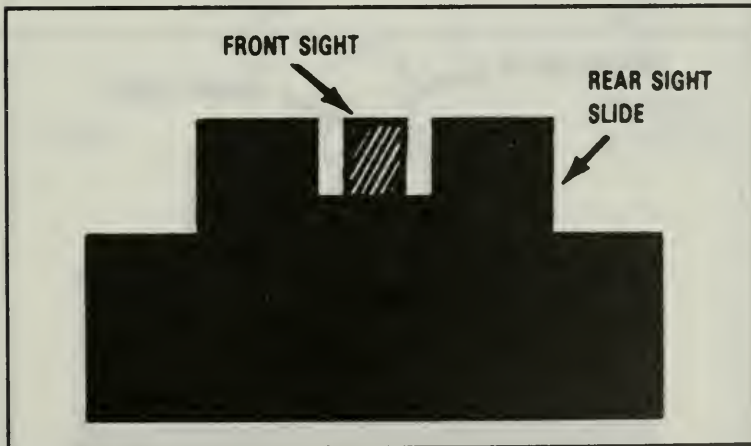

Figure 152. Sight alignment.
- a. Sight alignment. Center the front sight blade in the aperture of the rear sight with the top of the front sight blade even with the top of the rear sight slide (Figure 152).